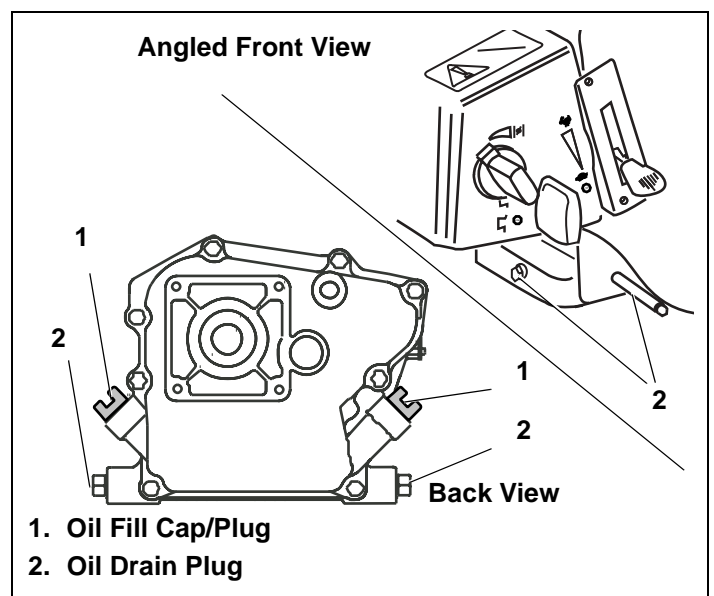

Figure 47. Oil Fill/Drain Locations
3. Be sure you find the correct oil drain plug location (see equipment manufacturer's instructions). See Figure 47.
5. Place approved recyclable oil container under oil drain plug. See Figures 47 and 48 starting on page 20. Afterward, continue reading instructions below.
- See Figures 47 and 48 starting on page 20. Afterward, continue reading instructions below.
12. Screw oil fill cap/plug back into oil fill hole. Tighten securely. See Figures 47 and 48 starting on page 20. Afterward, continue reading instructions below.